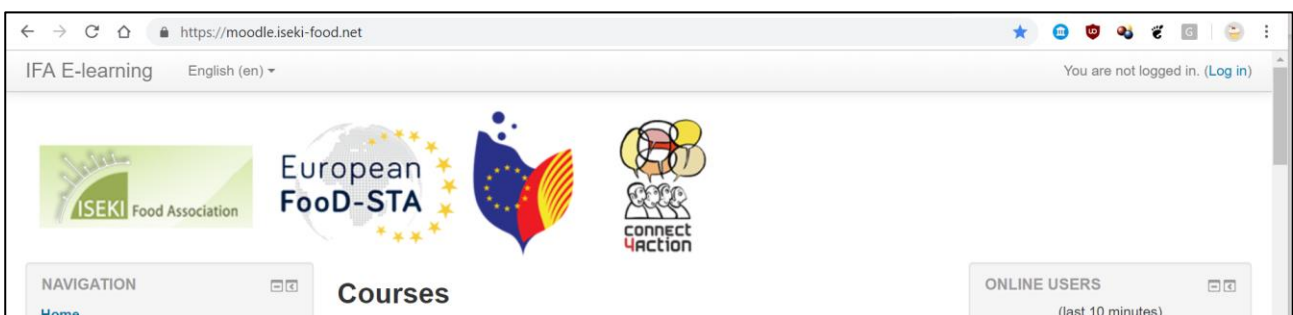

Figure 9: ISEKI-Food e-learning platform homepage.
3. "Training Materials" Outcomes (from e.g., coaching and peer-to-peer learning) and training activities (e.g., video-recordings, presentations, reports, webinars) from the 18 regional multi-actor innovation workshops, 2 per Innovation Hub, will be available here (collected and curated by IPB). Materials from relevant external sources may also be available. Each link will be preceded by a short paragraph in the form of a news article describing the type of training material available there. Based on user profiles, trainings will be suggested for individual users by the recommendation engine (see Rating Tool in 2.4 above). Additionally, if available, sections on Social Innovation (from WP3) and Media Trainings (from WP8) will be included. These materials may be available on the ISEKI-Food e-learning Platform through the SMARTCHAIN logo (to be inserted next to the other project logos) (Figure 9).
4. "Best practices in Innovation" An e-learning course in English that will be developed and complimented by a Best Practices Guide for hand-on users. This course will be available on the ISEKI-Food e-learning Platform (Figure 9).